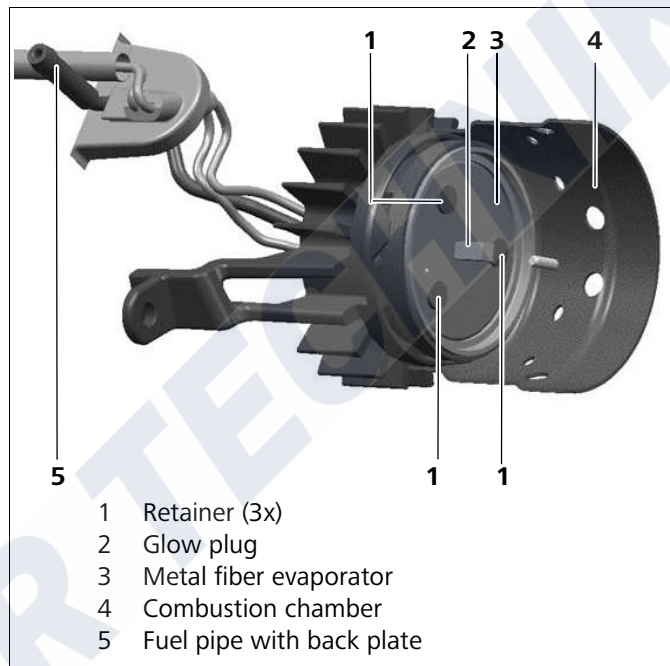

Fig. 701 Visual check, burner back plate
- Cracks, flaking as well as black or other discoloration of the metal fiber evaporator (3, Fig. 701) will not cause the burner to fail and do not impair operation.